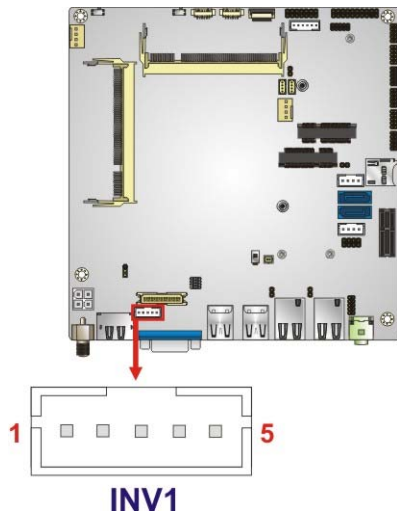

Figure 3-11: Backlight Inverter Connector Location
- CN Location:** See Figure 3-11